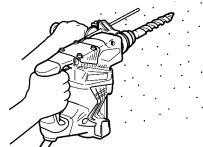

Fig. 7
- (1) Mount the drill bit.
- (2) Pull the trigger switch after applying the drill bit tip to the drilling position. (Fig. 7)
When the drill bit touches construction iron bar, the bit will stop immediately and the rotary hammer will react to revolve. Therefore grip the side handle and handle tightly as shown in Fig. 7.